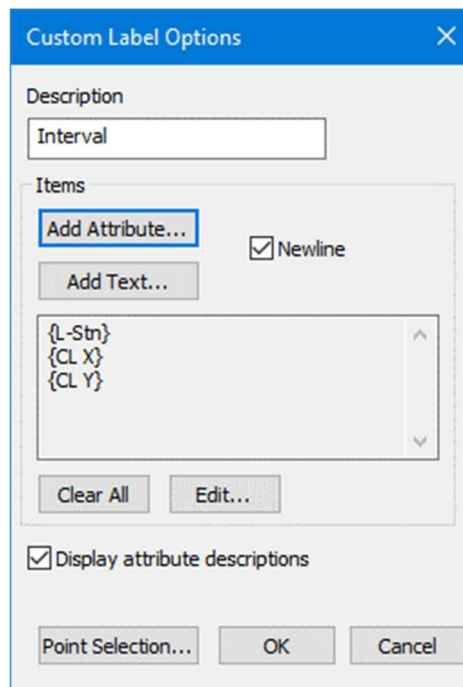

Figure 21-7: Custom Label Options Dialogue
16. In the *Label Selection and Formatting* dialogue, scroll down to the first *User Defined* label class. Select it and click on the *Options...* button to activate the *Custom Label Options* Dialogue as shown in Figure 21-7.